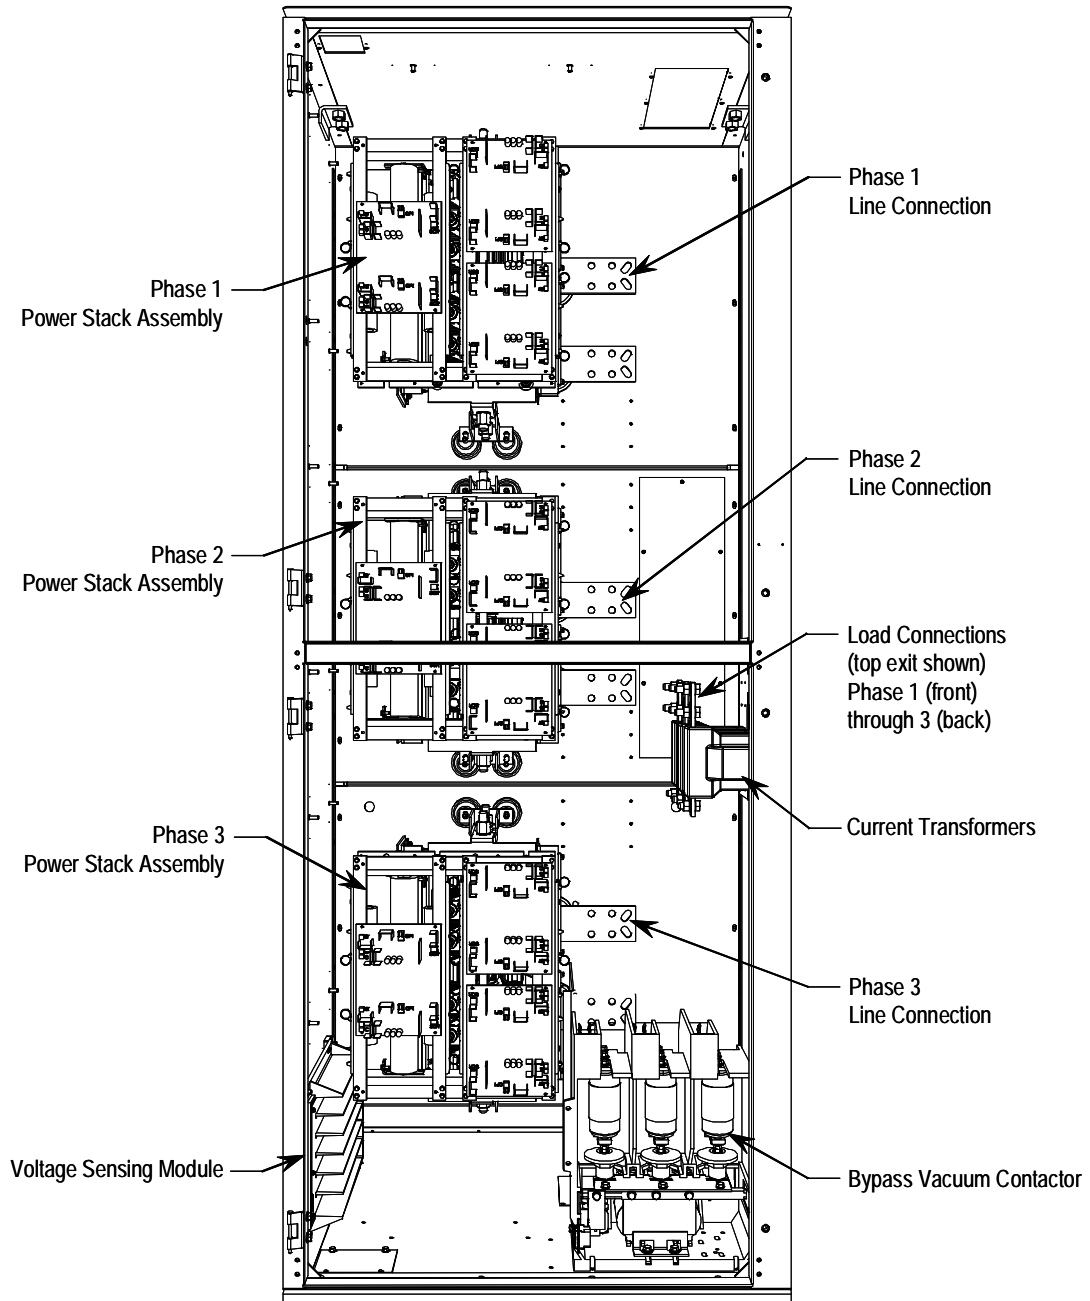

Figure 2.5 – Power Connections • 1560E – 180/360A, 5500 to 6900 V
- Make load connections at the 1560E CT terminals (refer to Figure 2.5 or 2.6)